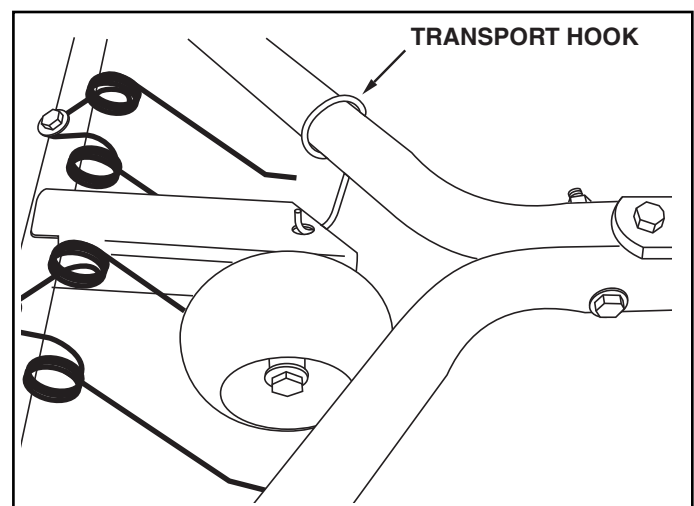

FIGURE 6
If you have a 30" sweeper, skip to figure 6.
- Lift the front of the dethatcher and secure it in transport position using the transport hook. See figure 6.